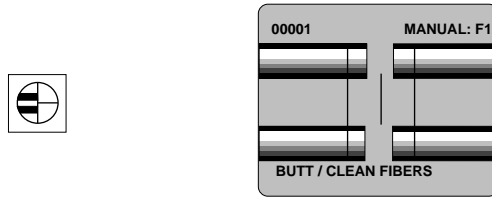

Figure 35
5.9 Press the magnification key to switch to high magnification. In this view, the fiber's X and Y axis are visible (Figure 35).